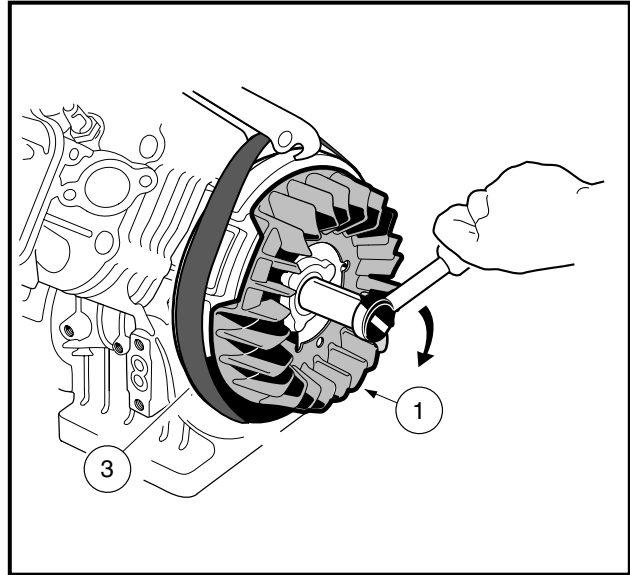

Figure 13-11 Fan and Flywheel Assembly
3. Use a strap wrench (3) to keep the flywheel and fan (1) from turning. Tighten the flywheel nut to 63 ft-lb (85.4 N·m) (**Figure 13-11, Page 13-9**). See following CAUTION.